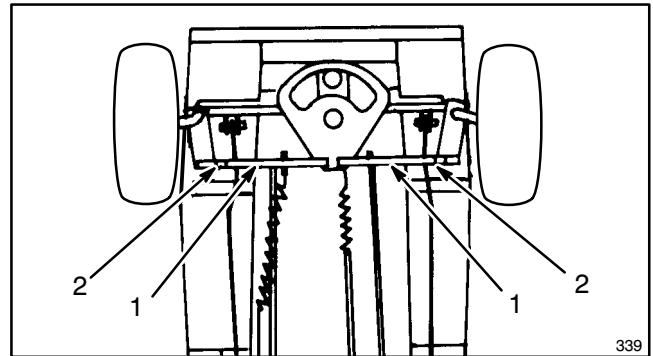

Figure 28
1. To align the front wheels, remove ball stud from steering arm. Loosen the jam nut and turn the tie rod until the center line distance across the front of the wheels (d') is .06 inch (1.5 mm) to 0.25 inch (6.3 mm) less than the center line distance across the rear of the front wheels (d'') (Figs. 28 and 29).